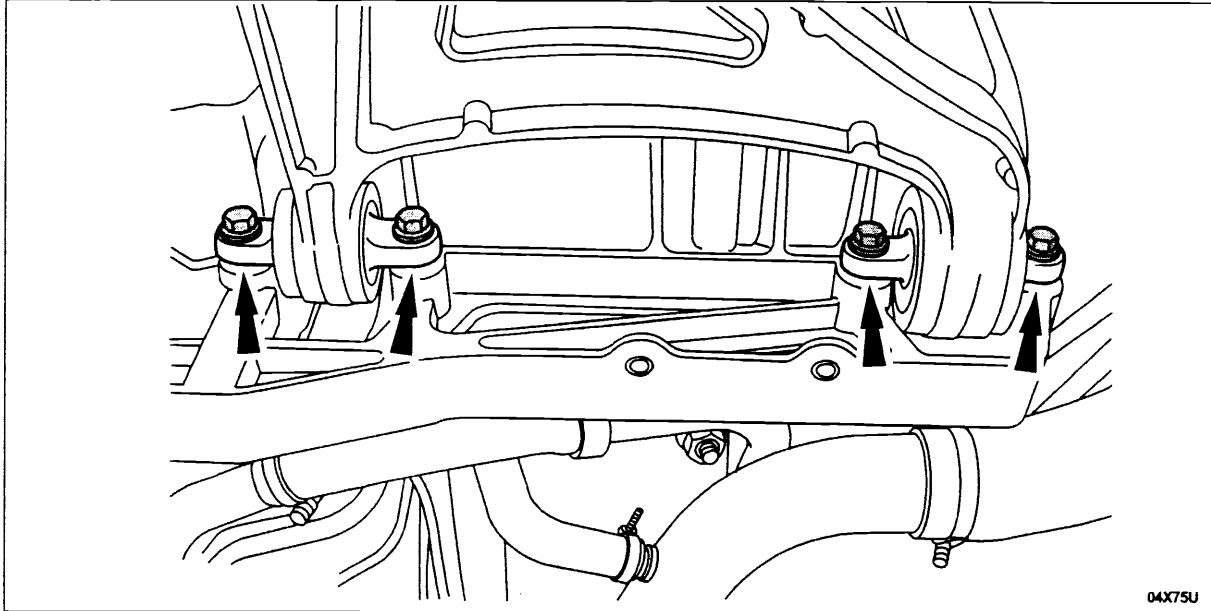

FIGURE 21
2. To adjust front camber, install the alignment shims between both bushings on the front lower control arm and the frame. Loosen bolts as necessary, but replace only one shim at a time. See Figure 21.